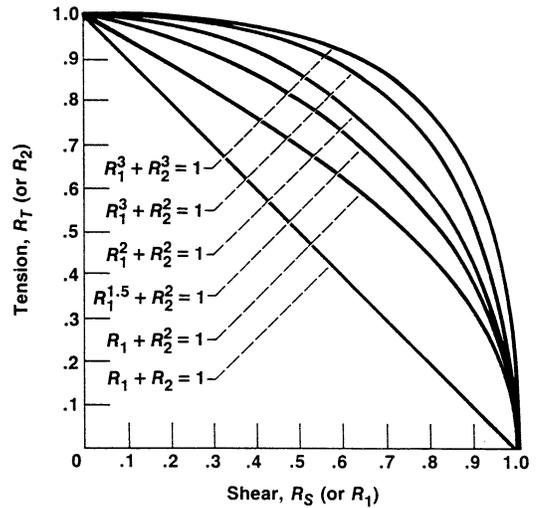

Figure 31.—Interaction curves.
The interaction curves of figure 31 are a series of curves with their corresponding empirical equations. The most conservative is  $R_1 + R_2 = 1$  and the least conservative is  $R_1^3 + R_2^3 = 1$ . This series of curves is from an old edition of MIL-HDBK-5. It has been replaced by a single formula,  $R_3^3 + R_7^2 = 1$ , in the latest edition (ref. 18). However, it is better to use  $R_T + R_S = 1$  if the design can be conservative with respect to weight and stress.
The margin of safety12 for a fastener from figure 31 is